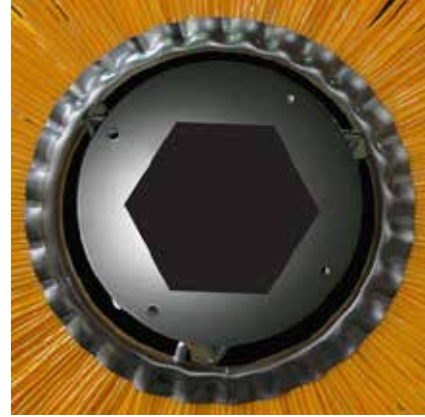

Figure 12
2. Note the location of the drive pin on the inside ring of each brush wafer. Position each wafer so its drive pin is positioned between the stop flanges. Rotate each subsequent wafer before installing so the position of its pin is staggered on the core by one stop flange. See Figure 12.
NOTE: Brush surface contact during initial operation will set all wafer drive pins up against the core stop flanges. See Figure 12.